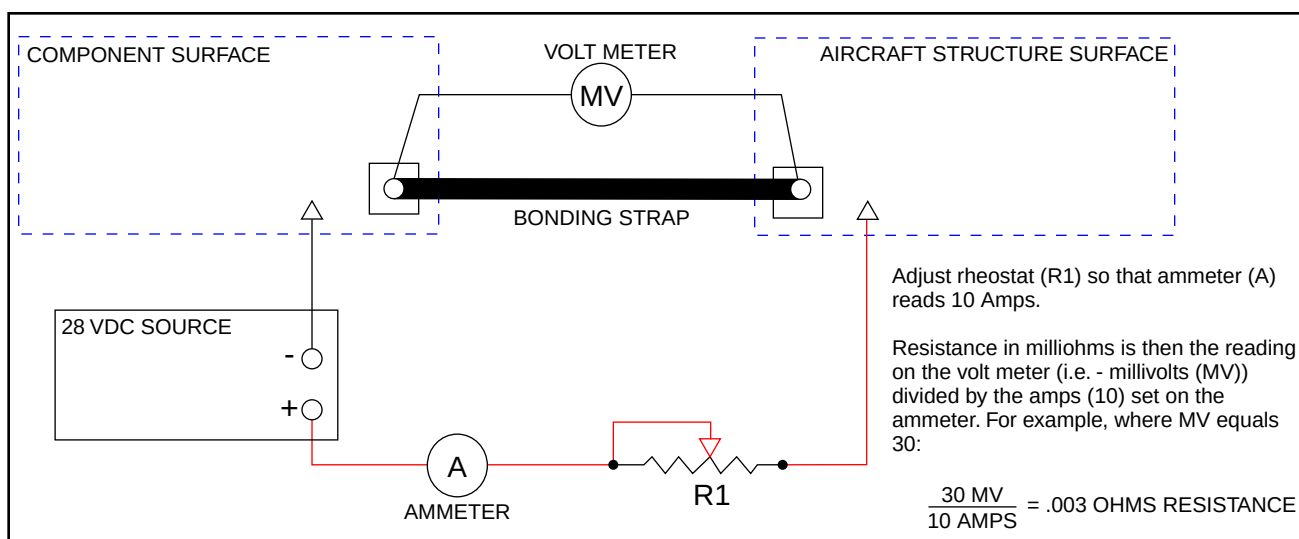

Figure 4-7a. Millivolt Drop Test
3. Another method of measurement is the millivolt drop test as shown in Figure 4-7a.